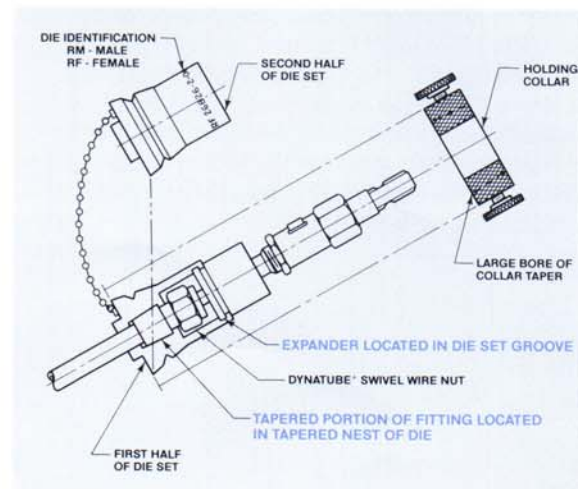

Figure 7
4. Place the combined expander-fitting-tube into the correct die set half. The fitting must be positioned in its nest and the expander lip must engage the groove in the die set. See Figure 7.